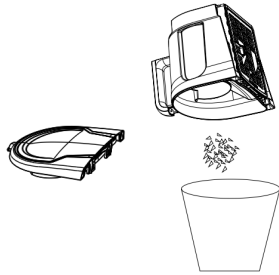

Fig.9
4. As in Fig.9, shut up the dust chamber for a circular use after your cleaning.